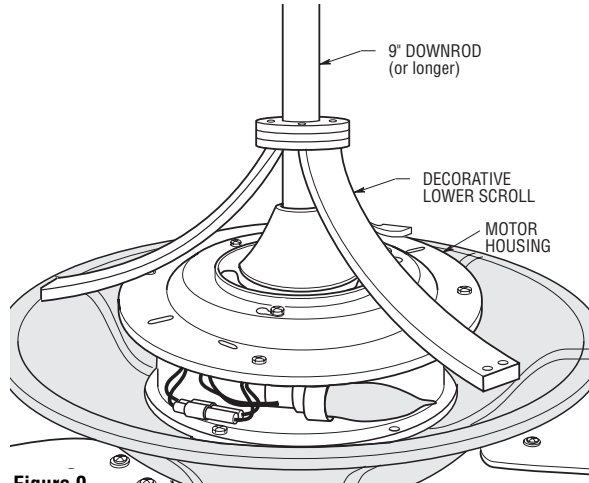

Figure 9
- 20. **12" Or Optional Longer Downrod Installation ONLY:** Slide the decorative lower scroll over the 12" downrod to rest upon the fan motor housing (Figure 9).